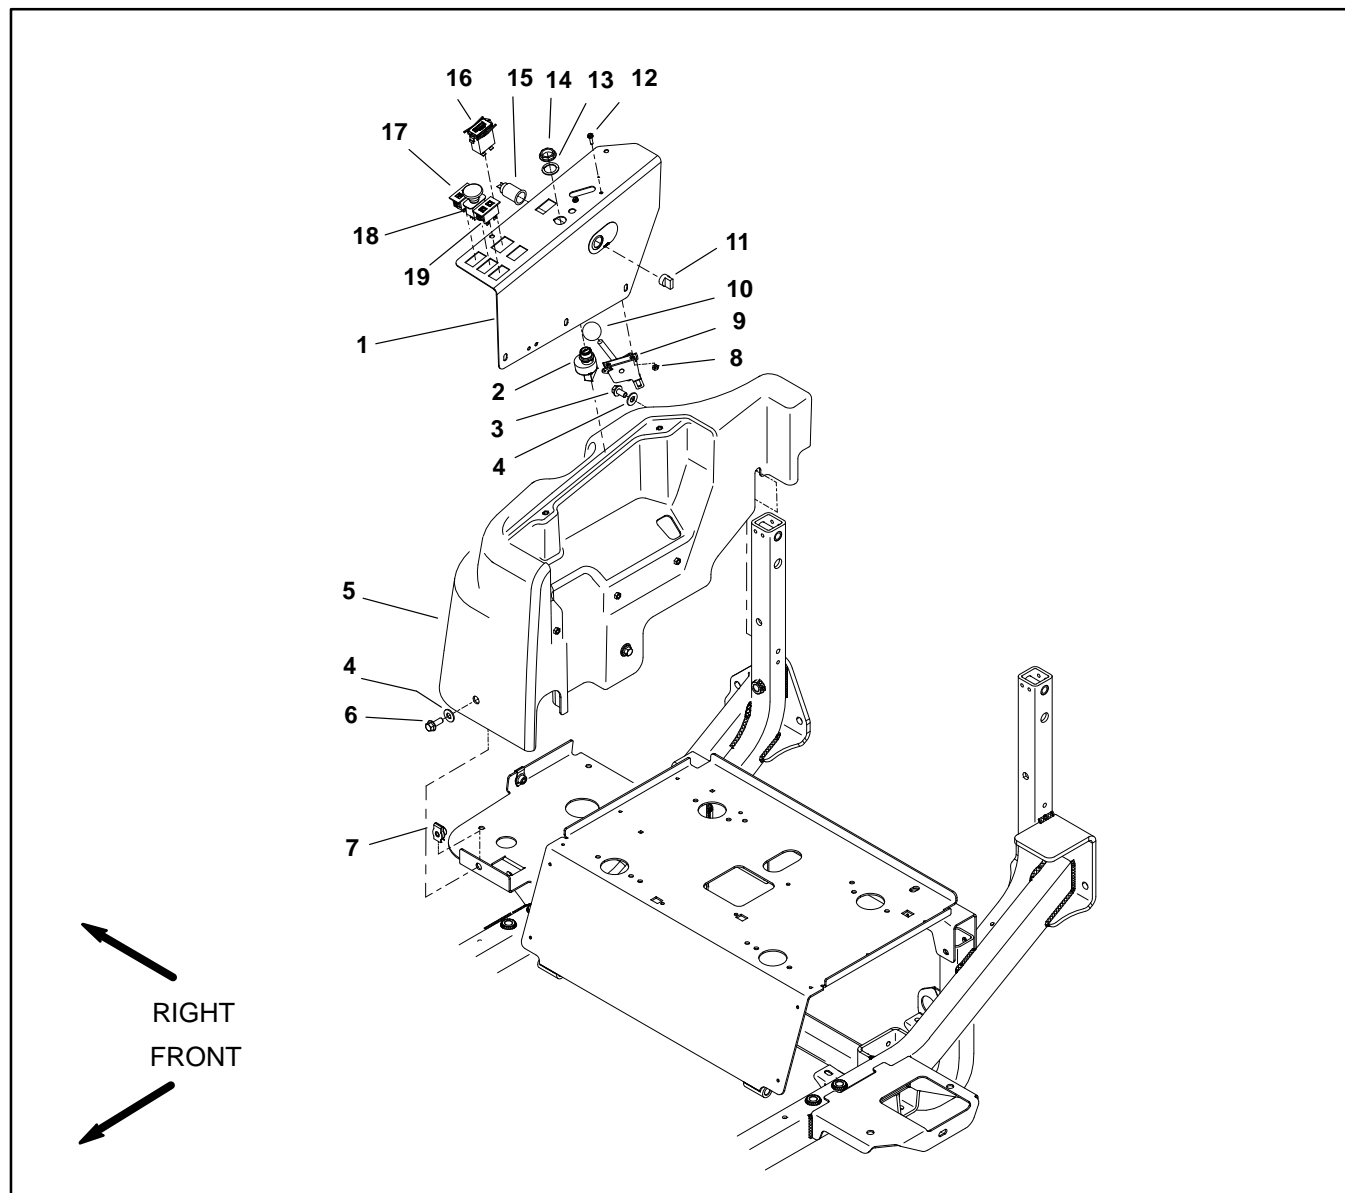

Figure 52
Disassembly (Fig. 52)
8. If necessary, remove hydraulic tank cover using Figure 52 as a guide.
Assembly (Fig. 52)
1. If hydraulic tank cover was removed, install cover using Figure 52 as a guide.